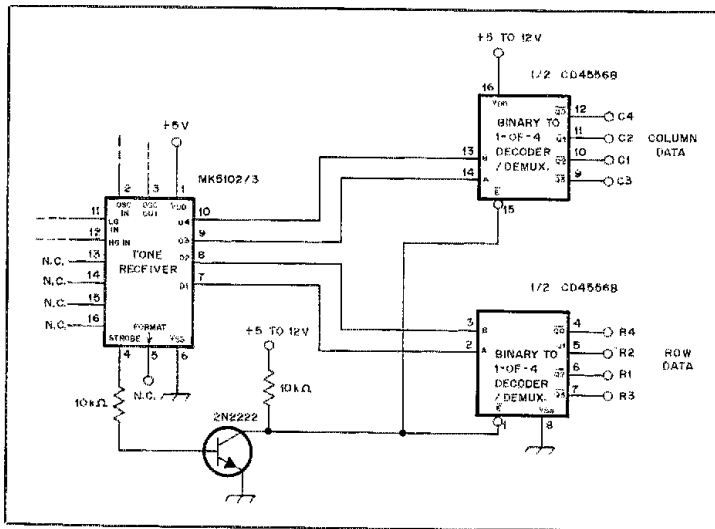

Fig. 4 — This circuit can be incorporated in the DTMF receiver should a 2-of-8 output be required.
The 4-bit binary output code of the MK5102/3 is selected by connecting the format control pin (5) to the +5-V supply. While not compatible with the board used here, a 2-of-8 output code may be selected by letting pin 5 float. (This output code is shown in Table 3 and a representative circuit is shown in Fig. 4.)
This output code may be used with a CD4556B as shown in Fig. 4 to result in a true 2-of-8 output. An MK5089 DTMF generator or pulse dialer IC can be driven directly by the CD4556B.